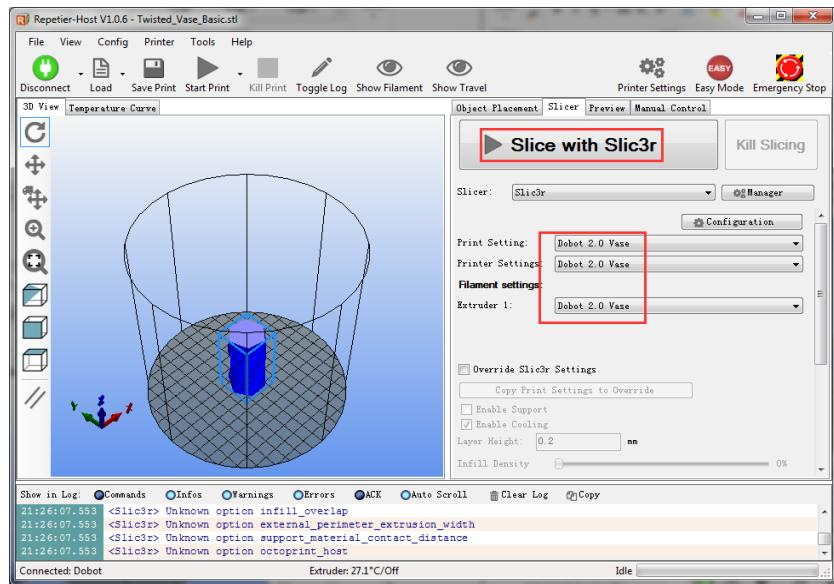

Figure 5.144 Start to slice
- Click **Slic3r** with **Slic3r** on the **Slicer** tab of the **Repetier Host** page, as shown in Figure 5.144.